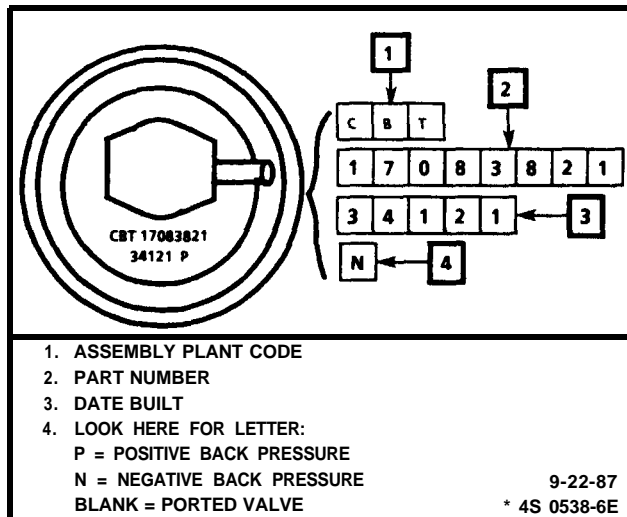

Figure C7-3 - EGR Valve Identification
- Port EGR valves have no identification stamped after the part number. (Figure C7-3)